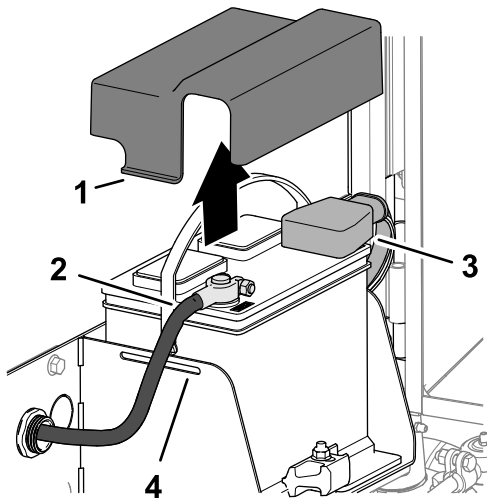

Figure 96
3. Press the sides of the battery cover, and remove the cover from the battery tray (Figure 96).